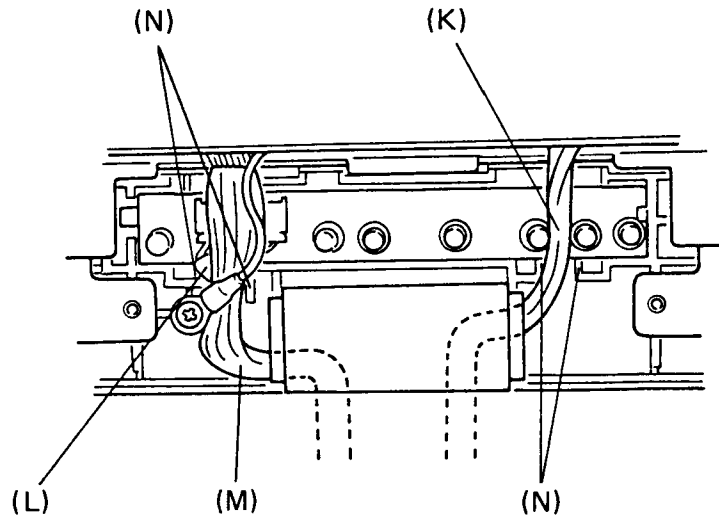

Figure 4-12 Cable position
- (1) Put the plasma display power cable (K) to your right, and the LED board cable (L) and plasma display signal cable (M) to your left as shown in figure 4-12.
- (2) Put the cable guide in the top cover, then place each cable in the two ditches (N) of the PDP cover assembly as shown in figure 4-12.